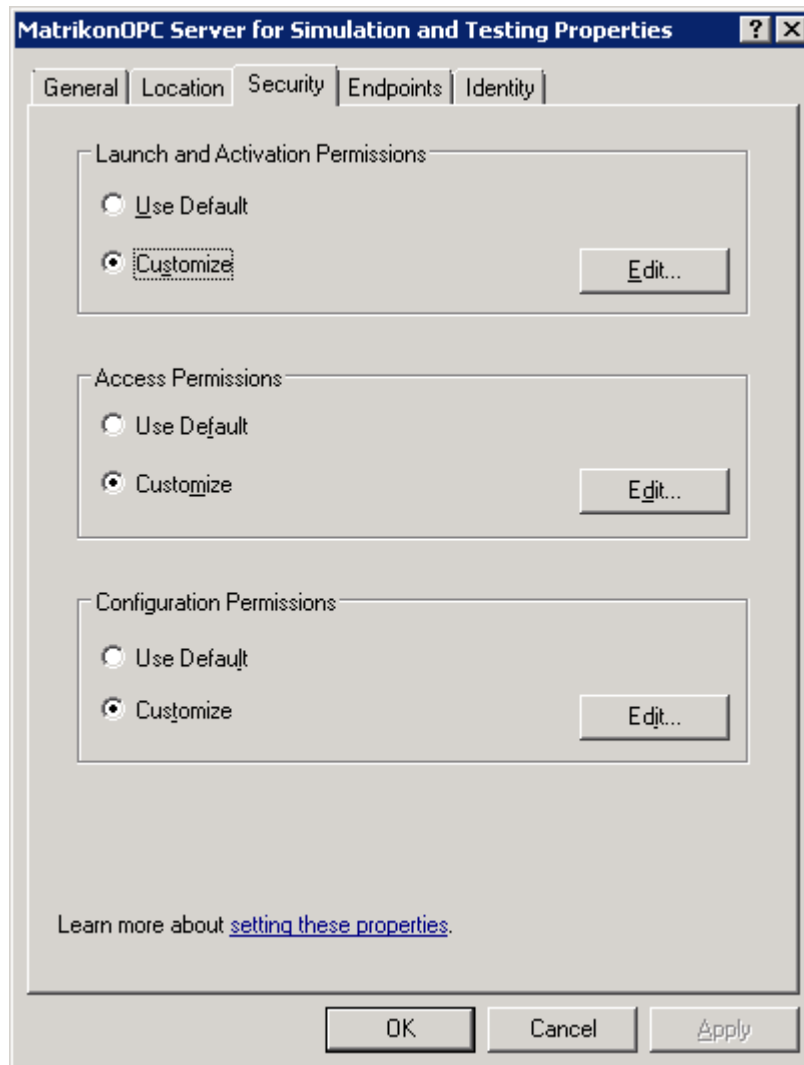

Figure 57 - Distributed COM Configuration Security Tab
6. The **Distributed COM Configuration Security** tab (Figure 57) appears.